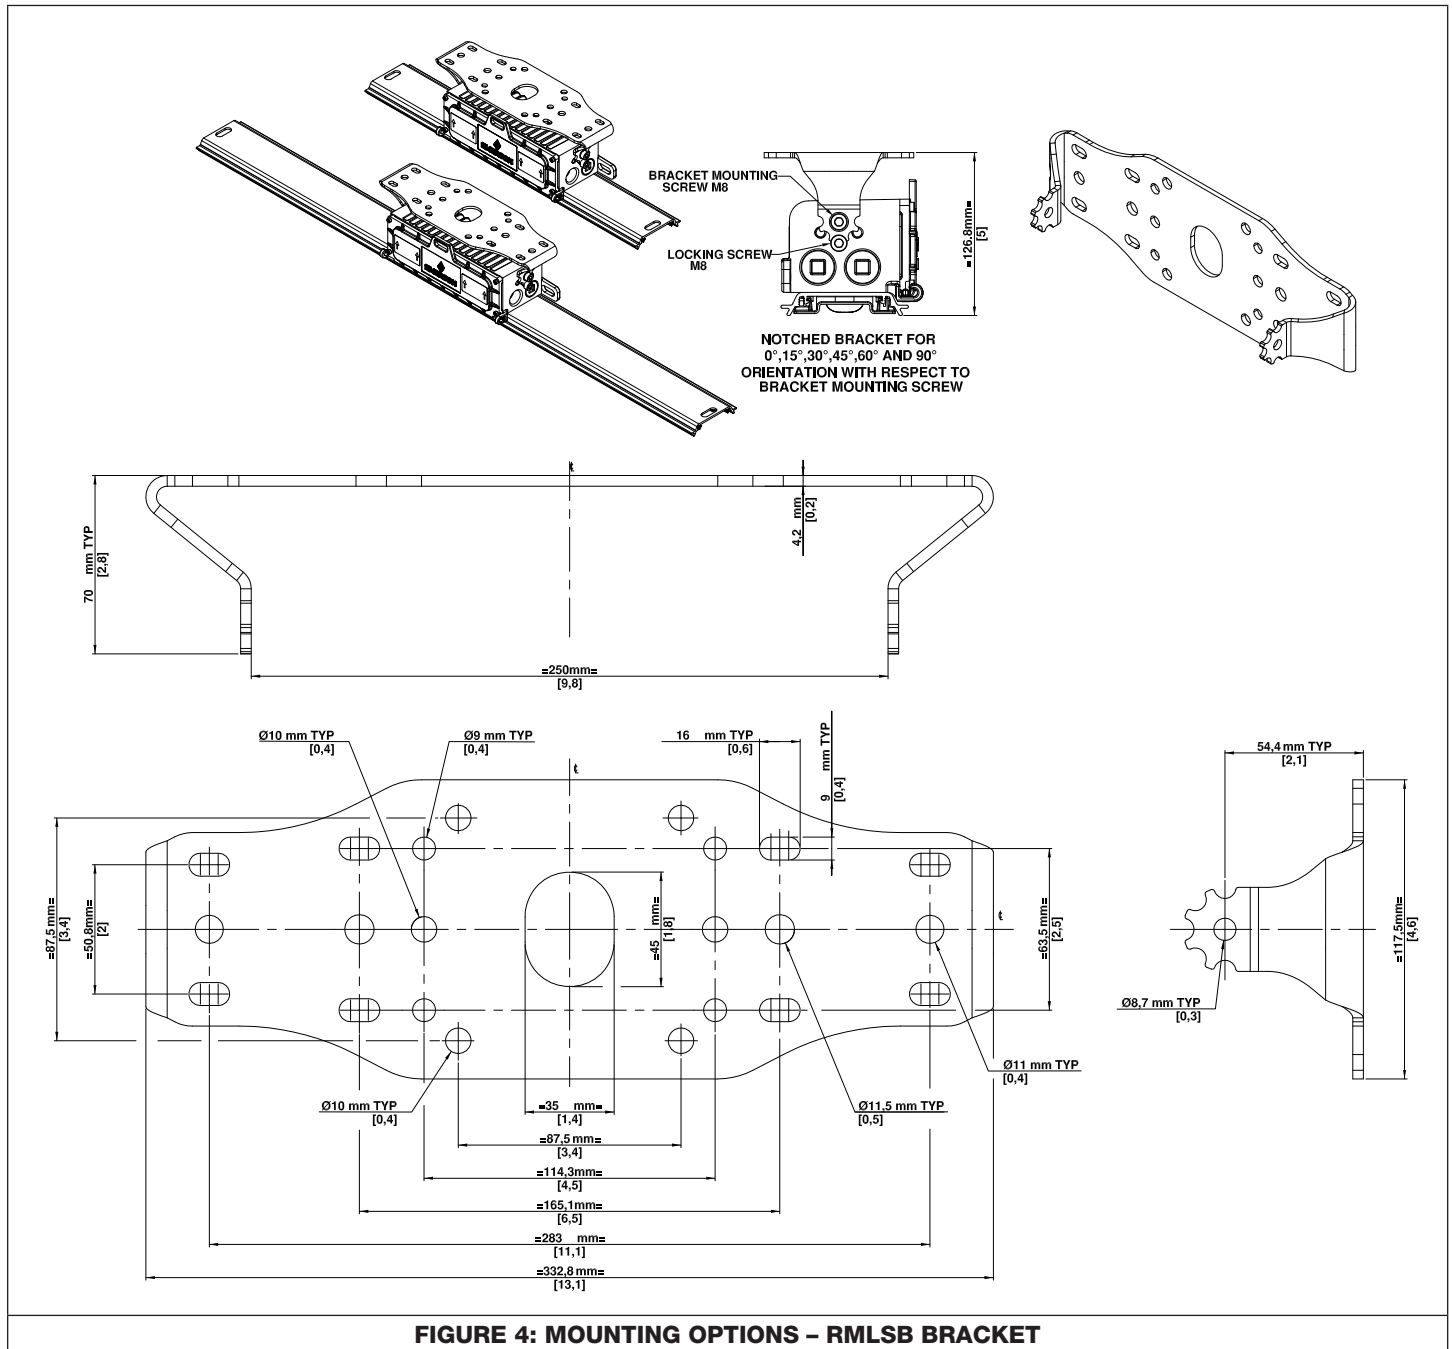

FIGURE 4: MOUNTING OPTIONS – RMLSB BRACKET
2. Determine appropriate mounting distance between holes on the brackets for your application. Refer to Figure 4.
4. Raise luminaire to mounted RMLSB bracket and secure it using M8 washer and bracket mounting screw M8 supplied with the bracket on both sides. Refer to Figure 4 for hole locations.
5. Align the luminaire to the desired aiming position with your free hand and use Locking screw M8 supplied with the bracket to hold at that position. Refer to Figure 4.